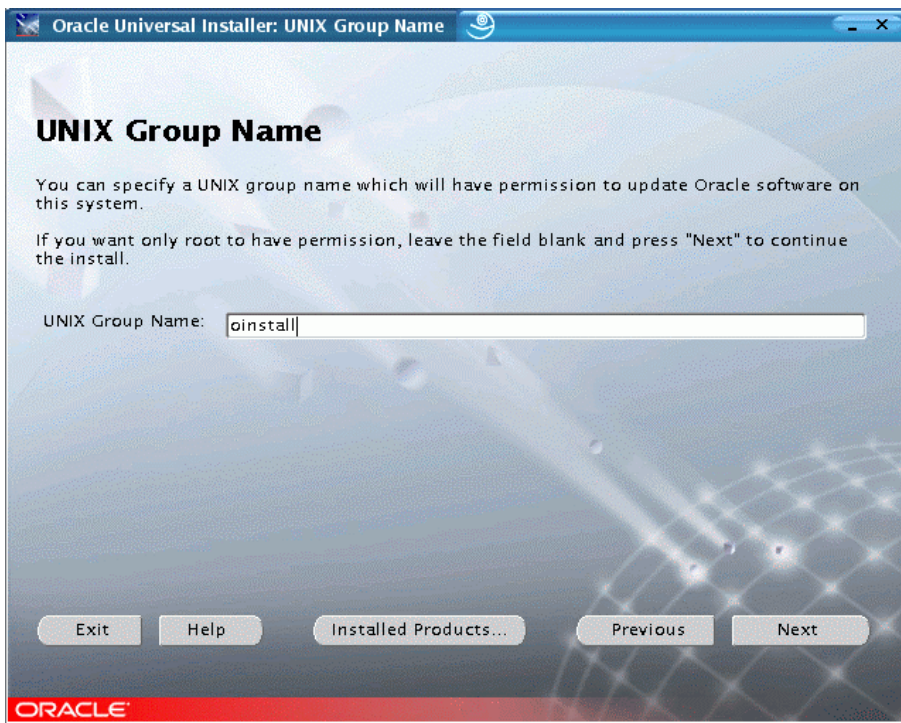

Figure 29. UNIX Group Name
4. The screen entitled UNIX Group Name, Figure 29, is displayed. Enter oinstall as shown. Click **Next** to continue.